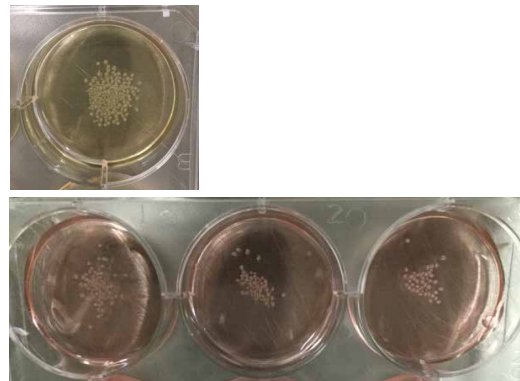

Figure 4. Division of aggregates from one well (top) into 3 wells (bottom).
- FP expansion, day 2: As FP progenitor cell aggregates expand, they will require frequent medium changes. To avoid daily medium changes, aggregates from each well should be divided into three wells (Figure 4). To divide spheroids into multiple wells, obtain an appropriate number of non-tissue culture treated 6-well plates (for example, one 6-well plate will require three 6-well plates). Add 2.5 mL of FP Cell Expansion Medium to each well of the new plate. Tilt the plate containing aggregates at a 45° angle for until aggregates have settled to the bottom. Using a 5 mL serological pipette, carefully collect the aggregates and divide them roughly equally into three wells. When finished, return the plate to the orbital shaker platform at 70 rpm in the 37°C incubator. Incubate cells for 48 hours.